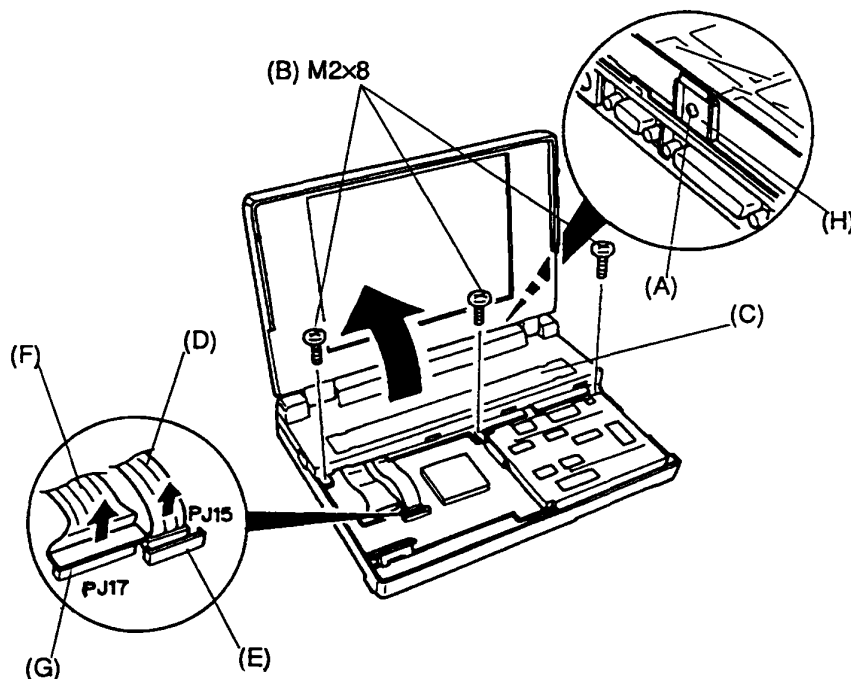

Figure 4-12 Removing the three top cover screws
3. If a ground cable is connected to the ground screw (A), remove the ground screw and disconnect the ground cable from the computer.
4. Disconnect the LED cable (D) from pressure plate connector PJ15 (E) and the display flex cable (F) from PJ17 (G) on the system board (Figure 4-12).
5. Support the back of the display panel as you remove the three (M2x8) screws (B) securing the front of the display panel (C) to the base assembly (Figure 4-12).
2. Install the three (M2x8 silver) top cover screws (Figure 4-12).
3. Connect the display flex cable to PJ17 and the LED cable to PJ15 on the system board (Figure 4-12).